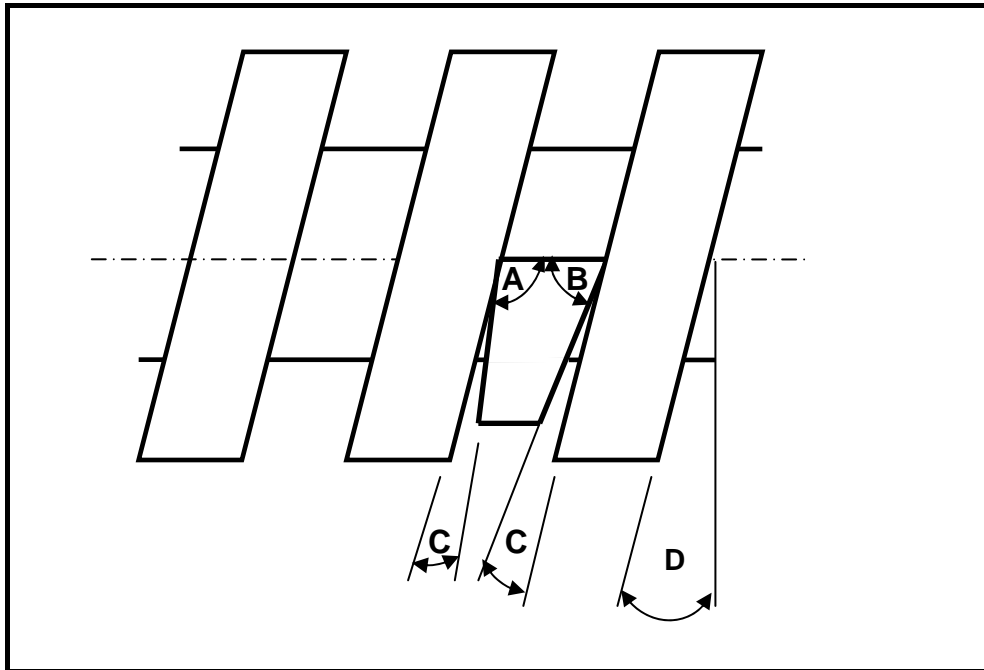

FIGURE 2.5
2.6 FIGURE 2.5 shows a cutting tool suitable for cutting left-hand square screw thread, in position. Label the angles according to the letters A – D.